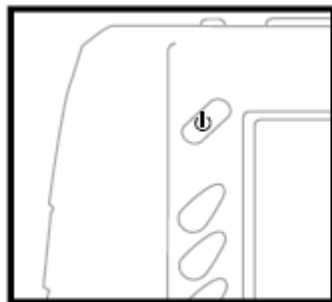

Figure.3
3. Push and hold the  button of the LCD unit for 3 seconds until the image is displayed on the monitor. (Figure 3)